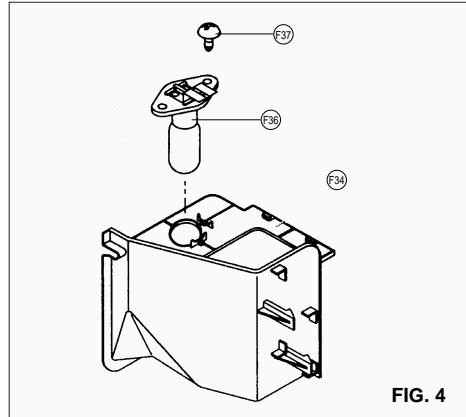

FIG. 4
3. To remove lamp (Refer to Fig. 4)